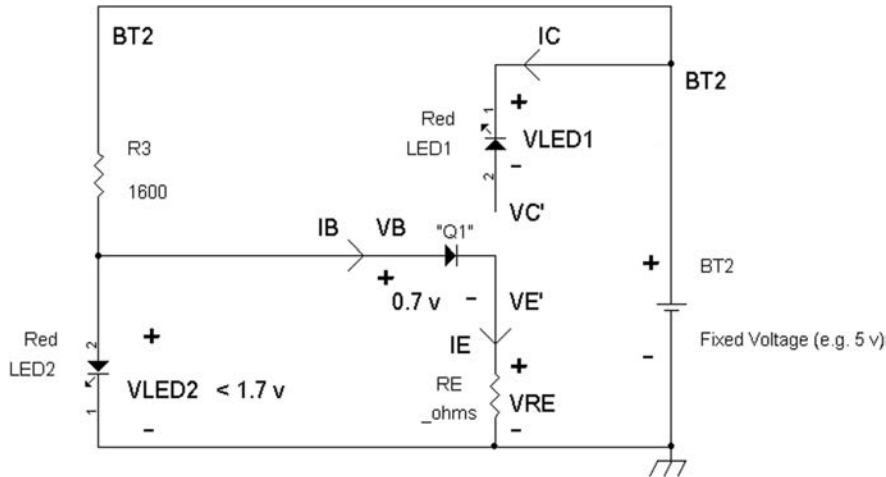

FIGURE 7-20 An equivalent circuit to Figure 7-19 using a diode “model” in place of Q1.
We see that with LED1 wired incorrectly, it will not light up. This means it's essentially an open circuit, which disconnects Q1's collector lead to any DC path to BT2. See Figure 7-20.
- Diode voltage of “Q1” = 0.7 volt (see Figure 7-20)